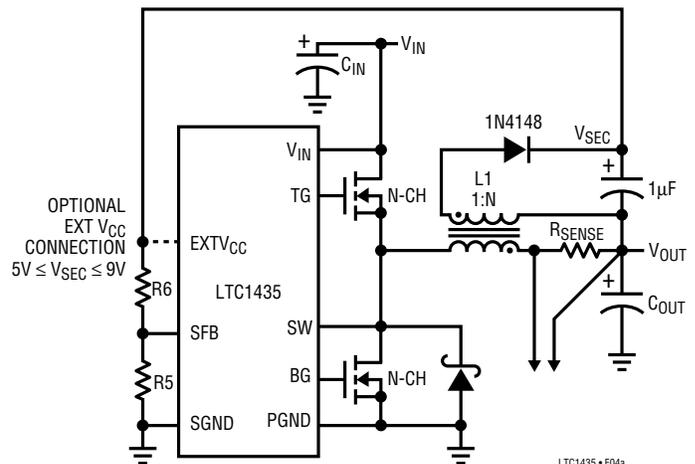
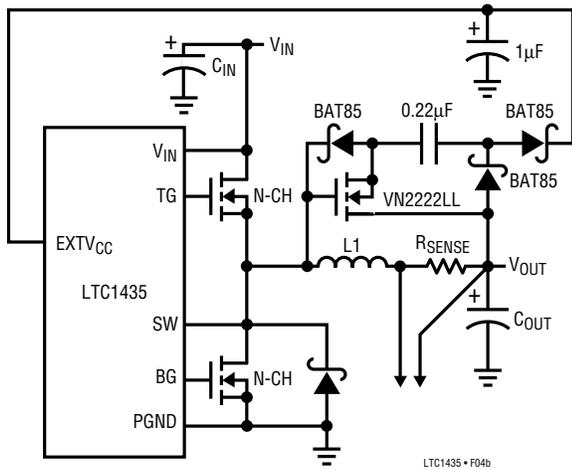

Figure 4a. Secondary Output Loop and EXTVCC Connection
Figure 4b. Capacitive Charge Pump for EXTVCC
3. EXTVCC connected to an output-derived boost network. For 3.3V and other low voltage regulators, efficiency gains can still be realized by connecting EXTVCC to an output-derived voltage which has been boosted to greater than 4.8V. This can be done with either the inductive boost winding as shown in Figure 4a or the capacitive charge pump shown in Figure 4b. The charge pump has the advantage of simple magnetics.
The secondary output voltage is set by the turns ratio of the transformer in conjunction with a pair of external resistors returned to the SFB pin as shown in Figure 4a. The secondary regulated voltage,  $V_{SEC}$ , in Figure 4a is given by: